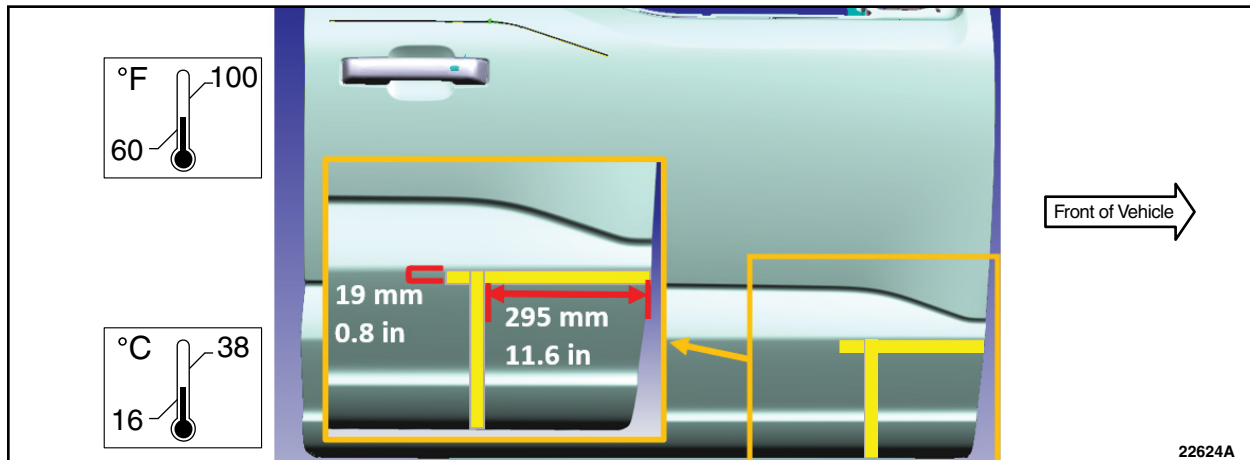

FIGURE 4
20. Measure and apply locating masking tape to the front RH door outer panel. See Figure 4.